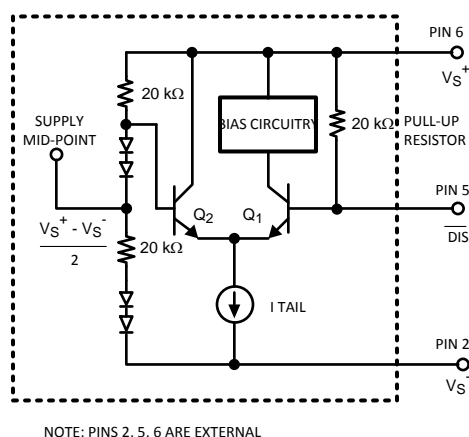

Figure 22. $\overline{\text{DIS}}$ Pin Simplified Schematic
The LMH6704 has a TTL logic compatible disable function. Apply a logic low (<8V) to the DS pin and the LMH6704 is disabled. Apply a logic high (>2.0V), or let the pin float and the LMH6704 is enabled. Voltage, not current, at the Disable pin (DS) determines the enable/disable state. Care must be exercised to prevent the disable pin voltage from going more than .8V below the midpoint of the supply voltages (0V with split supplies, $V/2$ with single supply biasing). Doing so could cause transistor Q1 to Zener resulting in damage to the disable circuit (See Figure 22 or the simplified internal schematic diagram using SOT-23 package pin numbers). The core amplifier is unaffected by this, but the disable operation could become permanently slower as a result.